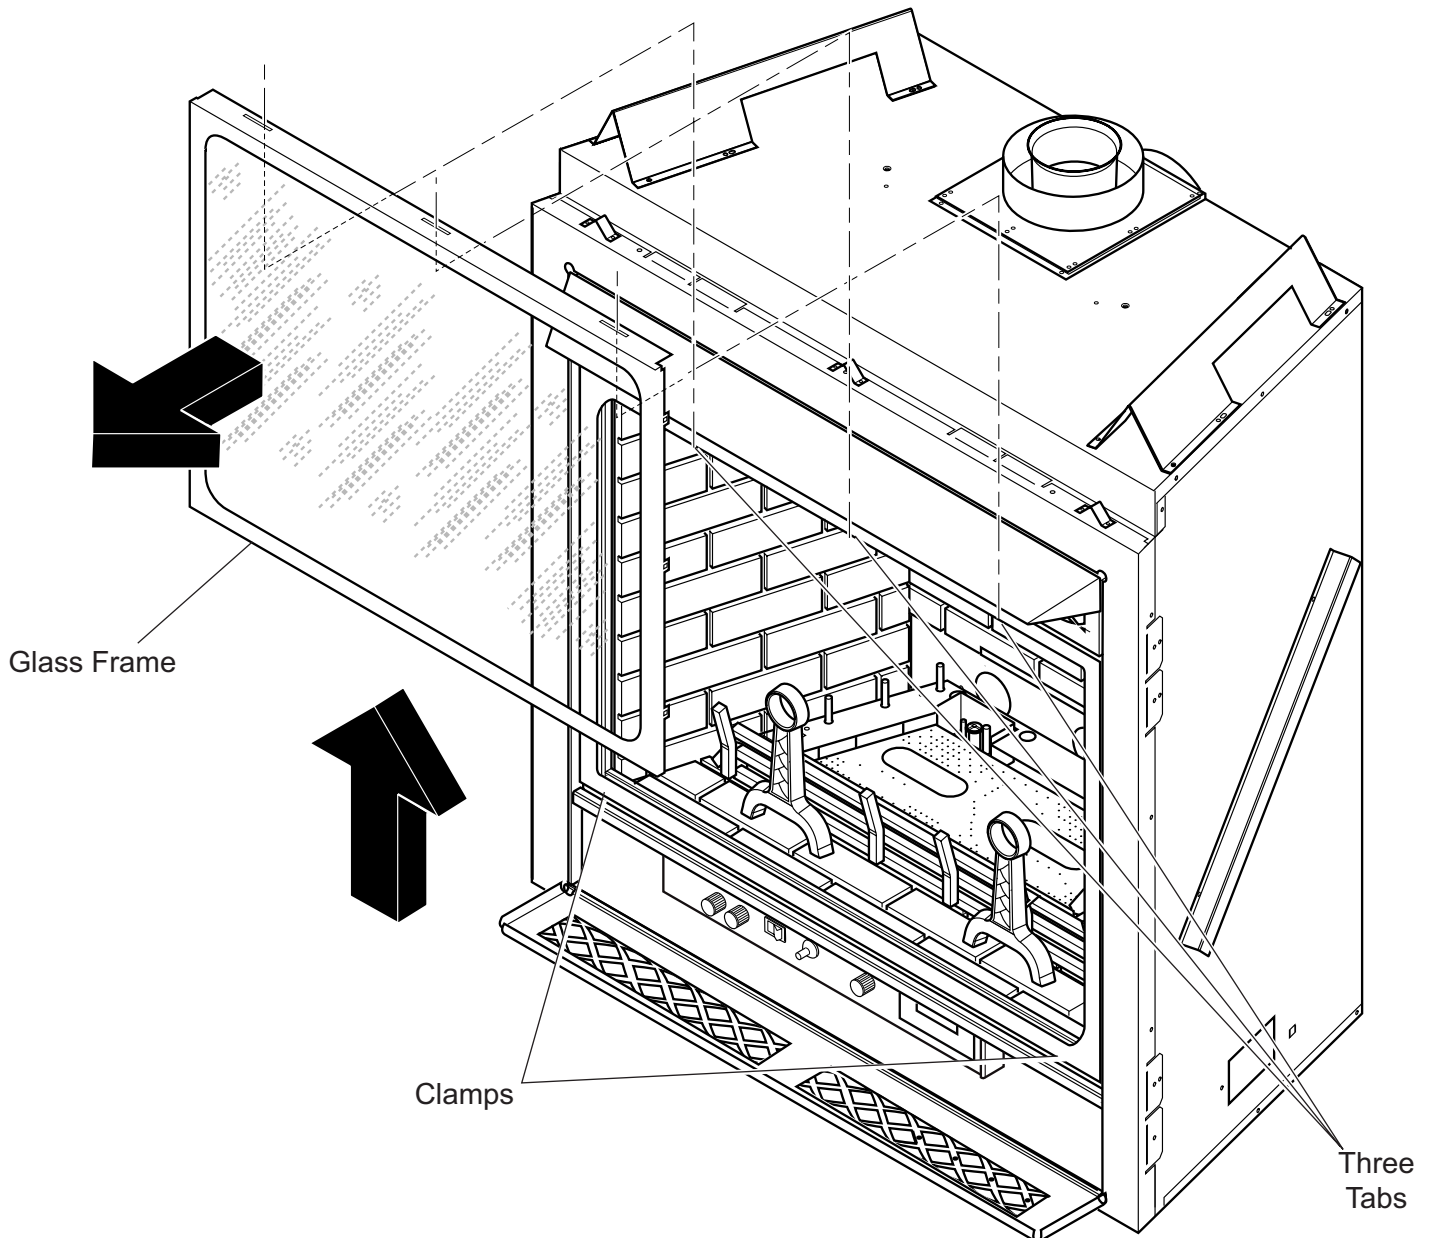

Figure 42 - Removing Glass Frame
2. Release two clamps on bottom of fireplace. *See Figure 42.*